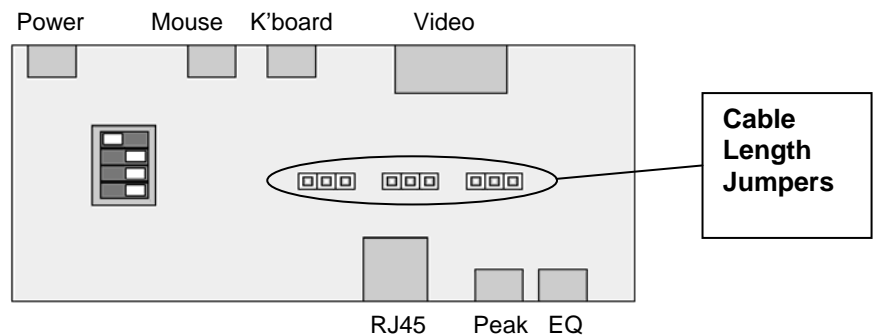

Figure 2 Location of cable length jumpers on Remote Unit's main circuit board
3. Locate the three cable length jumpers on the Remote Unit's main circuit board (see Figure 2).